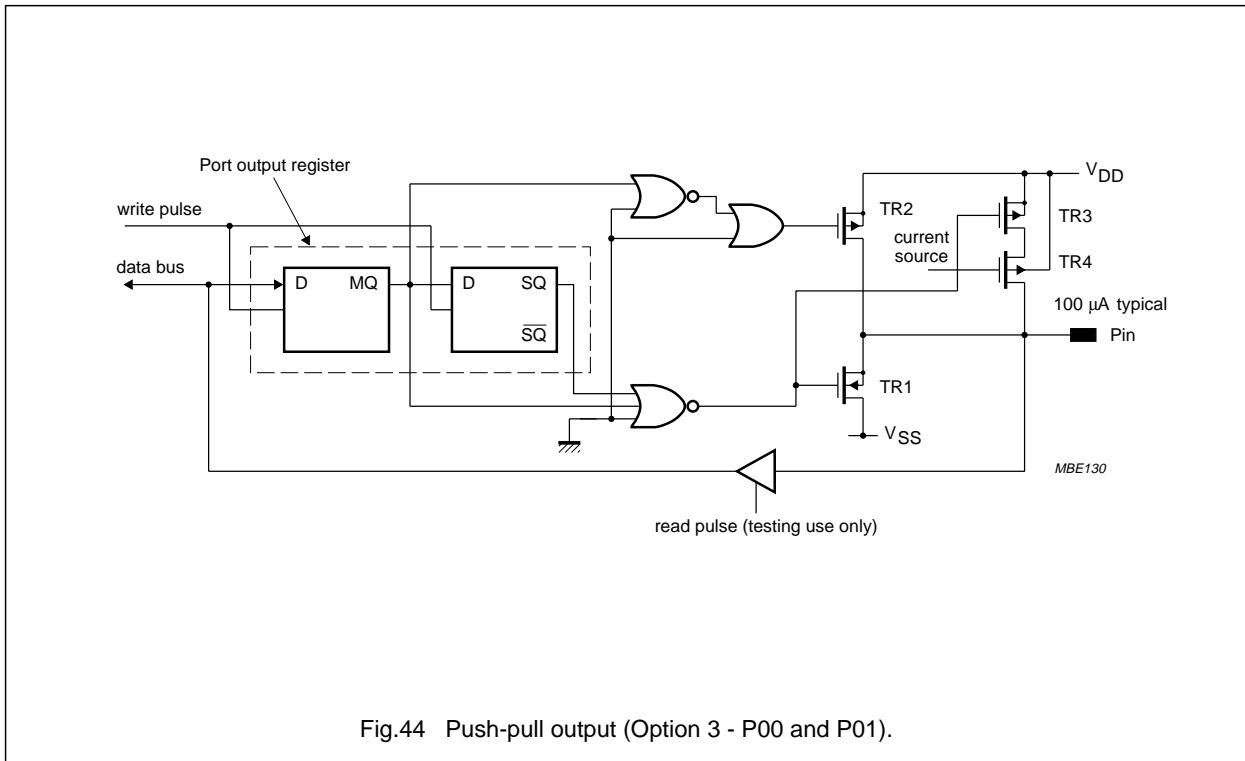

Fig.44 Push-pull output (Option 3 - P00 and P01).
- Option 3: Push-pull output. See Figs 44 and 47.